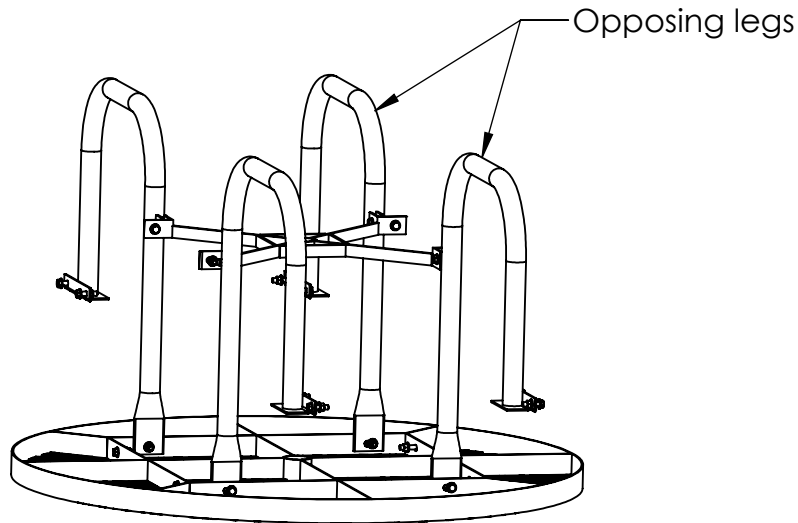

Fig. 1
1. With table top upside down bolt 2 opposing legs on to top. As shown in Fig. 1. Do not tighten the bolts now.